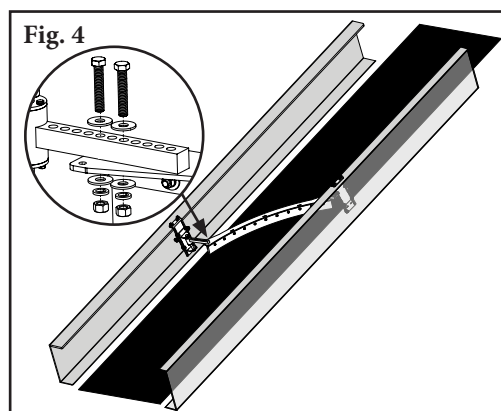

Fig. 4
4. **Attach the plow frame/blade to the mounting arm.** Using the multiple hole options, mount the arm to the frame. Check to ensure that the blade covers the entire belt width, or overhangs the belt slightly, before tightening down the hardware (Fig. 4).
- 4. Safely and slowly release the plow frame from blocking and/or suspension.** Ensure the blade makes full contact with the belt and does not bind on the mounting pin (Fig. 4).